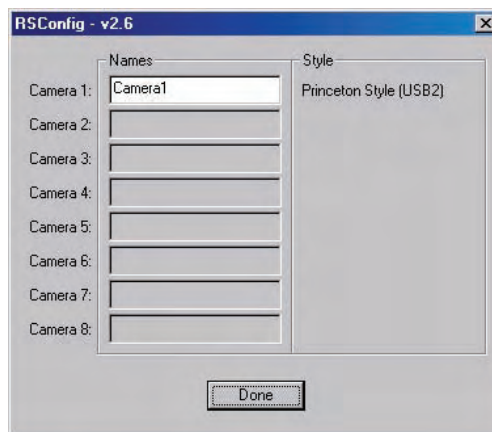

Figure 11. RSConfig dialog box
3. When the RSConfig dialog box (Figure 11) appears, you can change the camera name to one that is more specific or you can keep the default name "Camera1". When you have finished, click on the **Done** button.